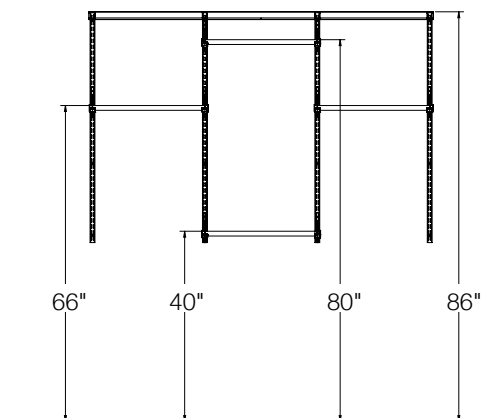

Figure 1
STEP 1: Measure 86" from the floor and make two marks on the wall with a pencil (**Figure 1**).
STEP 3: Install the hang rail into wall studs (the top of the hang rail at 86") using the provided screws and a level (**Figure 1**).
c. Common closet pole heights (measuring from the floor to the top of the closet pole): 66" for a single pole configuration; 40" and 80" for a double pole configuration (**Figure 1**).